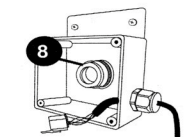
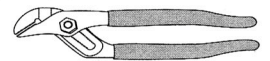

FIGURE 5
FIGURE 6
5. Remove the quartz seal compression nut (5) by turning it **counterclockwise**, Figure 5. Use a pair of channel-lock pliers if needed, Figure 6. You will notice that there is a stainless steel compression washer (4) which slides over the quartz tube, save the washer (4) for later use, Figure 7.
6. Now you are ready to clean or replace the quartz tube (2). For cleaning the quartz tube (2), follow steps 7 and 8 then proceed from step 9. For replacing quartz tube (2), skip steps 7 and 8 and proceed from step 9.